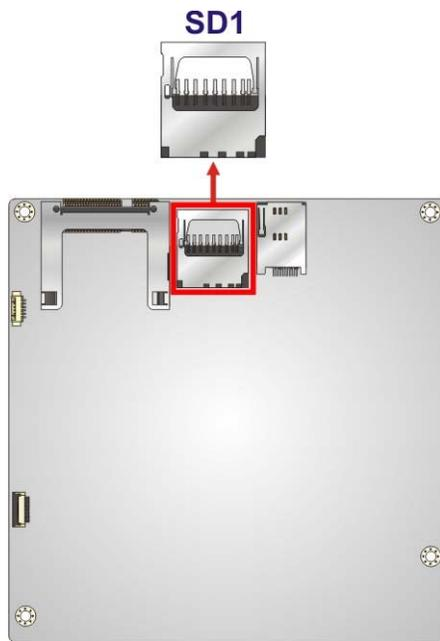

Figure 3-23: SD Card Slot Location
- CN Location:** See **Figure 3-23**
| CN Location: | See Figure 3-23 |